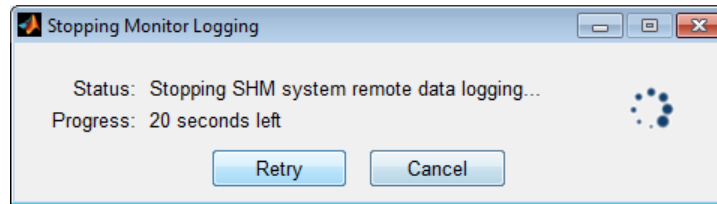

Figure 5.4: 'Initializing Monitor Logging' dialog box.
- ✓ **Step 5.8** Click 'Yes' to stop data logging. A 'Stop Monitor Logging' dialog box will appear, as shown in Figure 5.4, displaying the status of stopping the SHM system remote data logging and the amount of time remaining to receive a confirmation.
- ✓ **Step 5.12** Click 'Yes' to stop data logging. A 'Stop Monitor Logging' dialog box will appear, as shown in Figure 5.4, displaying the status of stopping the SHM system remote data logging and the amount of time remaining to receive a confirmation.
- ✓ **Step 6.9** A 'Stop Monitor Realtime' dialog box will appear, as shown in Figure 5.4, displaying the status of stopping the SHM system real-time data logging and the amount of time remaining to receive a confirmation.